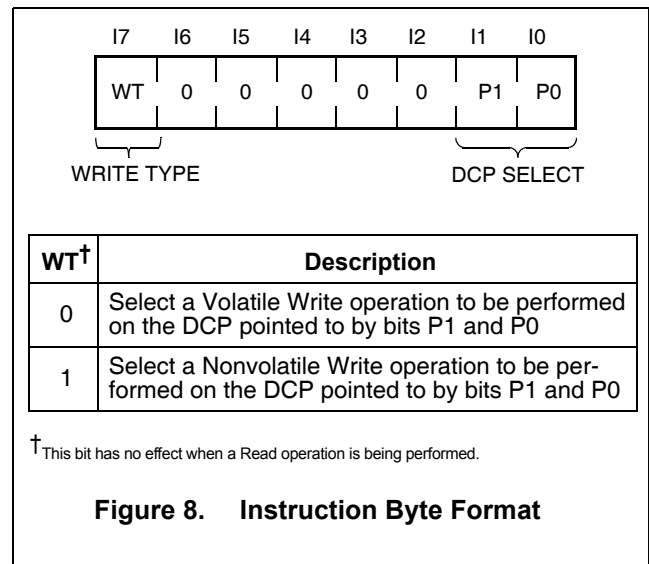

Figure 8. Instruction Byte Format
The Instruction Byte (Figure 8) is valid only when the Device Type Identifier and the Internal Device Address bits of the Slave Address are set to 1010A₀11. In this case, the two Least Significant Bit's (I1 - I0) of the Instruction Byte are used to select the particular DCP (0 - 2). In the case of a Write to any of the DCPs (i.e. the LSB of the Slave Address is 0), the Most Significant Bit of the Instruction Byte (I7), determines the Write Type (WT) performed.